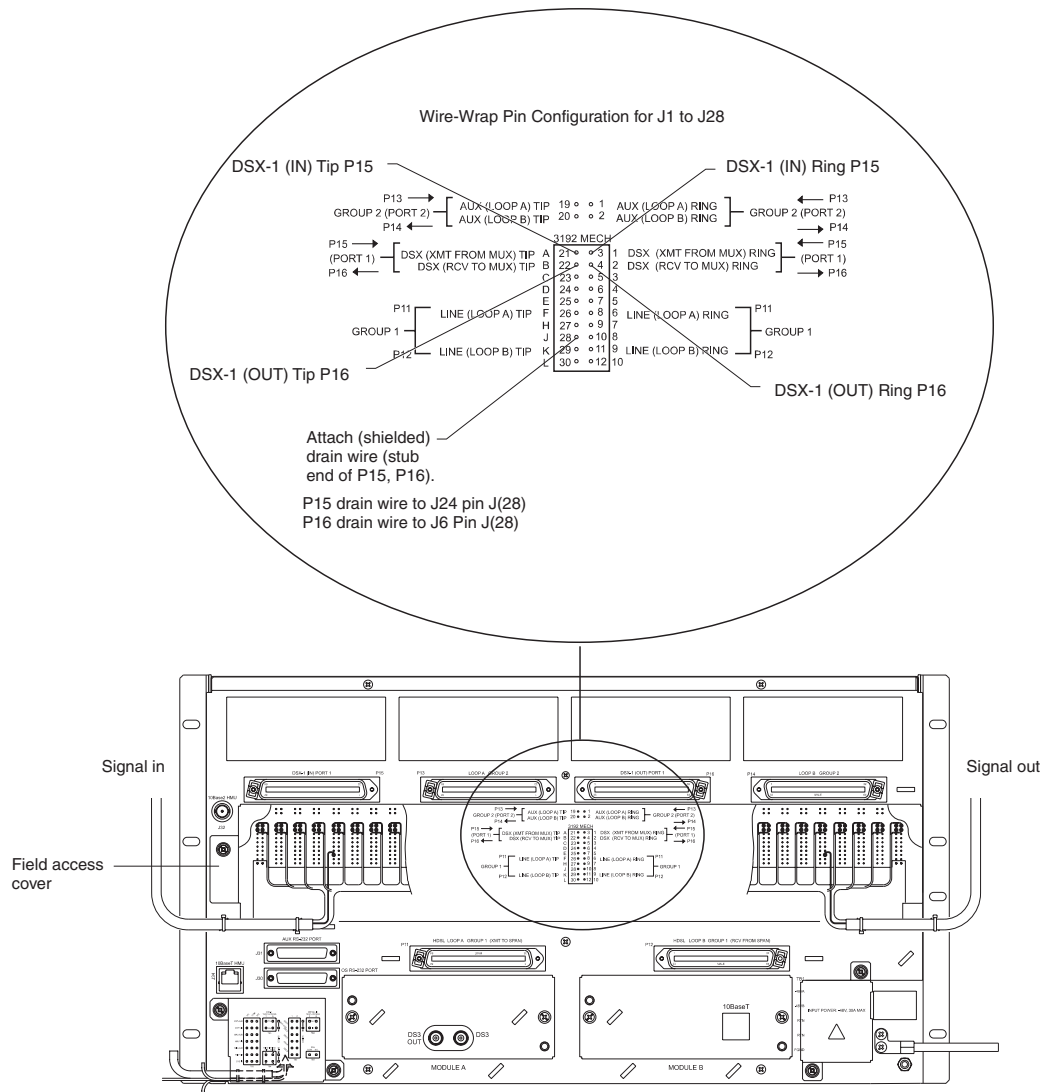

Figure 44. Wire-Wrapping the HMS-358 List 5 and List 6 Chassis
Figure 44 provides a guideline for wire-wrapping the HMS-358 List 5 and List 6 chassis to support wire-wrapped DSX-1 applications. The wire-wrapping option shown in Figure 44 is for use with four-wire 3192 line units in Central Office (CO) systems.
Group 1 (Port 1) connections typically provide a four-wire connection to the field and can be made through P11 (TX) and P12 (RX) or through wire-wrap connections under the field access cover (Figure 44). Group 2 (Port 2) connections can be accessed through four wire-wrap posts under the field access cover.